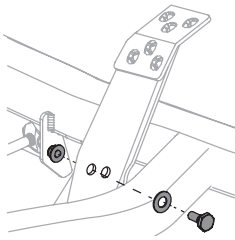

Fig. 36
2. Remove the hex bolt, washer and hex nut near the center of the pedal assembly (Fig. 36 on page 29).
4. Re-install the hardware previously removed and torque the nut to 28-35 ft-lbs (38-47 N-m) (Fig. 36).